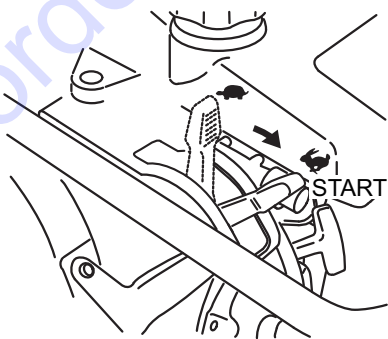

Figure 14. Throttle Lever (Start Position)
1. To start the rammer tamping action, move the throttle lever (Figure 14) **quickly** from **IDLE** (→) to the **START** (↻) position. **DO NOT** move the throttle lever slowly as this may cause damage to the clutch or spring.